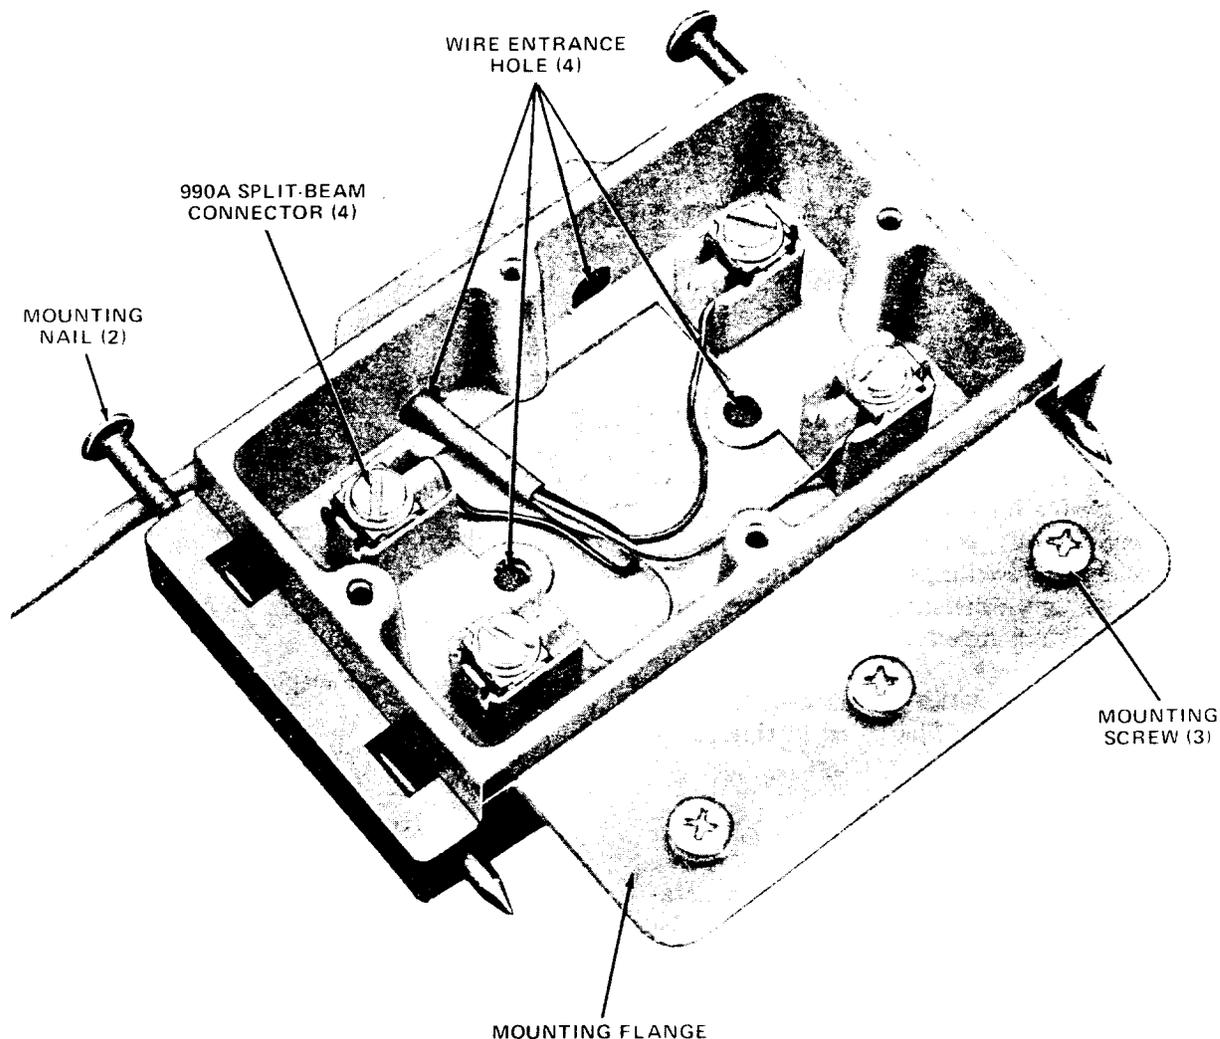

Fig. 1—800C Station Wire Box (Without Temporary Cover)
**A. 800C Station Wire Box and Cover (Fig. 1 and 2)**